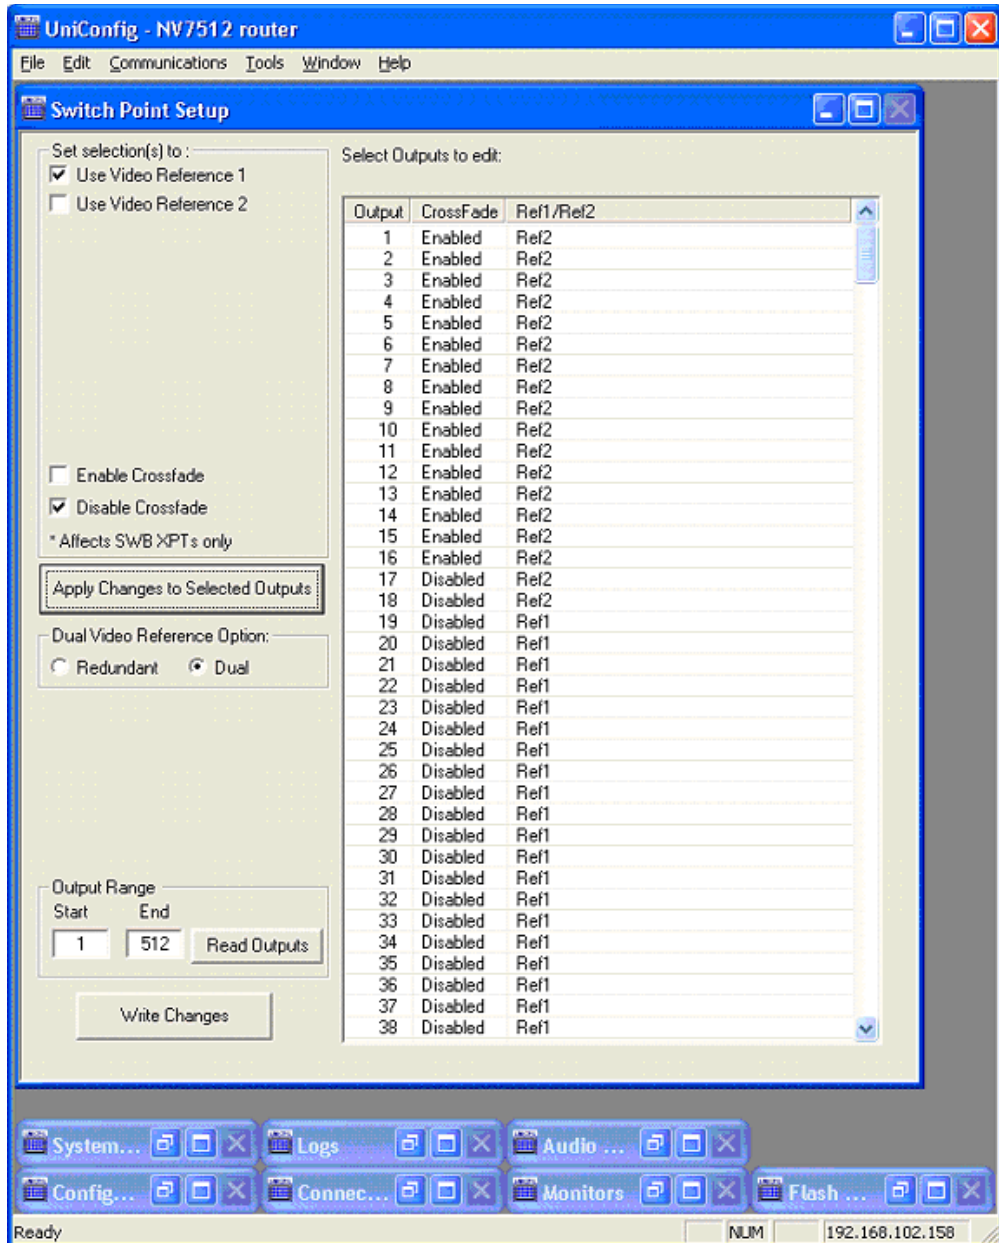

Figure 3-7. Switch Point Setup Window
- 2 From the menu bar, select 'Window > Switch Point Setup'. The 'Switch Point Setup' window appears, as shown in Figure 3-7 on page 83.